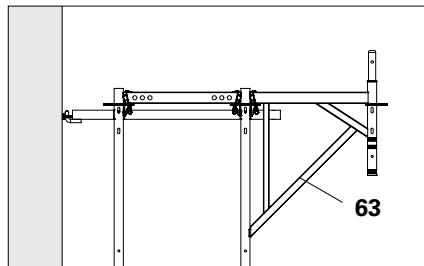

Fig. D1.13a
- Anchor each frame column to the inner and outer legs of the vertical frames with a Wall Tie UWT (46). (Fig. D1.13a + D1.13b)
The 50 cm standards of the console brackets do not need to be anchored. The anchoring of the inner and outer legs is sufficient. (Fig. D1.13a + D1.13b)